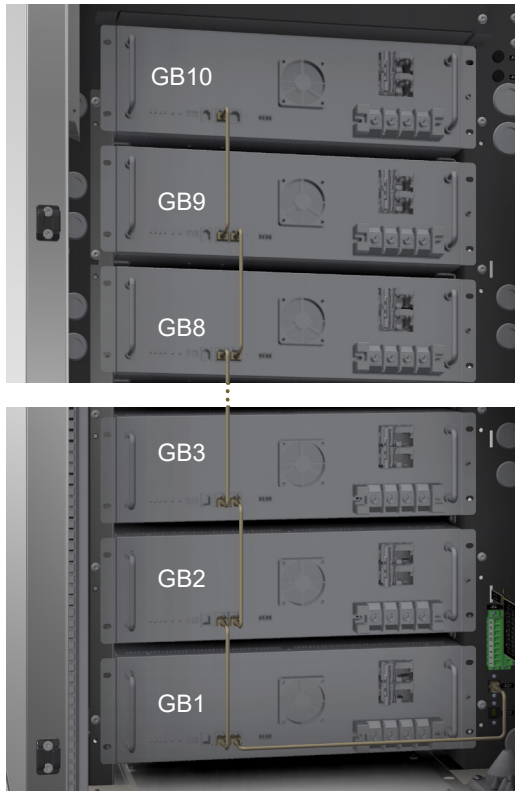

Figure 4.41 Battery communication cables
1. Connect each battery module to those adjacent to it using an intra-rack RJ45 communication cable. For connection use Modbus ports on batteries (see *Figure 4.41*).
2. Interconnect connector -X21 with the bottom battery Modbus port using attached RJ45 communication cable (see *Figure 4.41*).